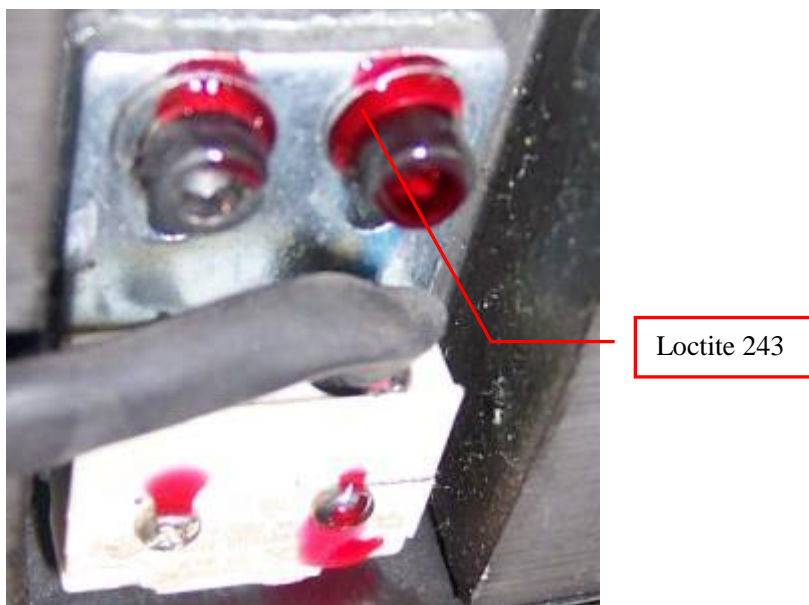

Figure 32: Brake Switch after applying Loctite 243
2. After the adjustment is correctly confirmed, tighten the screws M3 with hex wrench 2.5. Use torque screw driver to tighten the bolt to 9 in-lb. Then apply red Loctite 480 or equivalent between the screw head and the installing plate for anti-vibration purpose. See Figure 32.